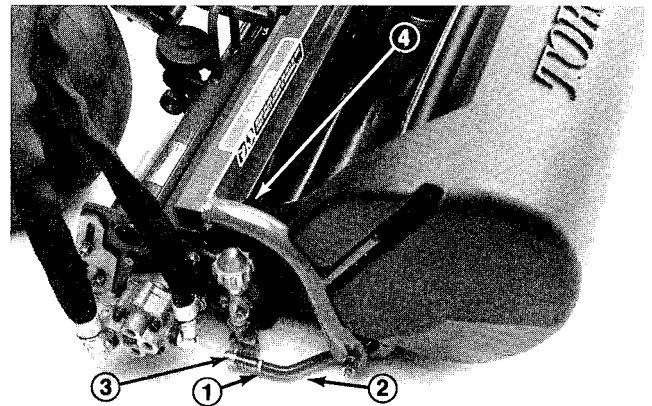

Figure 9
6. Mount the baskets on the pull frames, loosen the jam nuts on the pull arms and adjust the ball sockets until there is 1/4 in. to 1/2 in. clearance between the lip of the basket and the reel blades (Fig. 9).
- Align the sockets in the ball joints so the open side of the socket is centered towards the ball stud. Tighten the jam nuts to secure the sockets in position (Fig. 9).